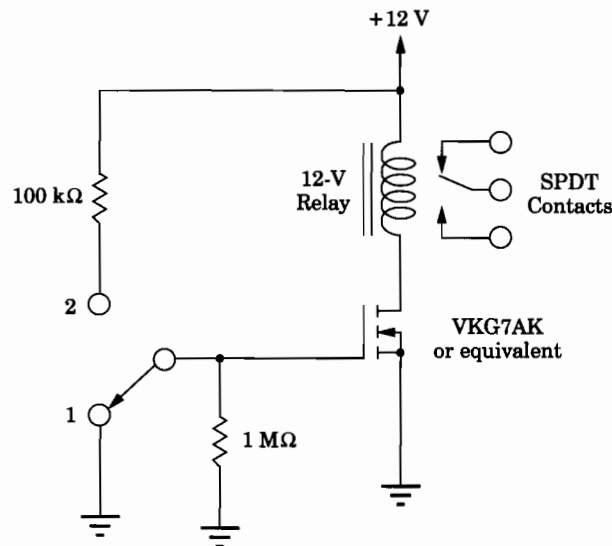

FIGURE 22–1 Schematic diagram of circuit.
1. Wire the circuit shown in the schematic diagram of Figure 22–1. *Be very careful in handling the VMOSFET.* Manufacturers normally package VMOSFETs with all leads shorted together with a piece of wire or metal ring and the leads pressed into black conducting foam material. First insert the VMOSFET on the breadboard and wire the remaining components. Then unwrap the shorting wire from all the leads. *Never insert a VMOSFET to or remove a VMOSFET from a circuit when the power is still on.*